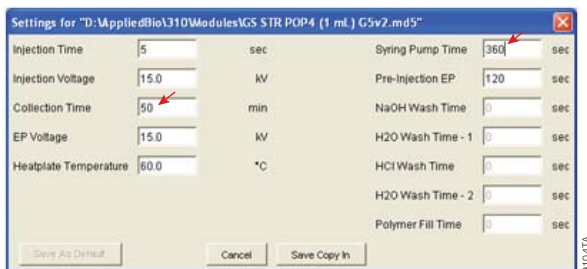

Figure 13. Changing the collection time and syringe pump time.
- Change the Collection Time to “50” and Syringe Pump Time to “360” (Figure 13). Select “Save Copy In”.